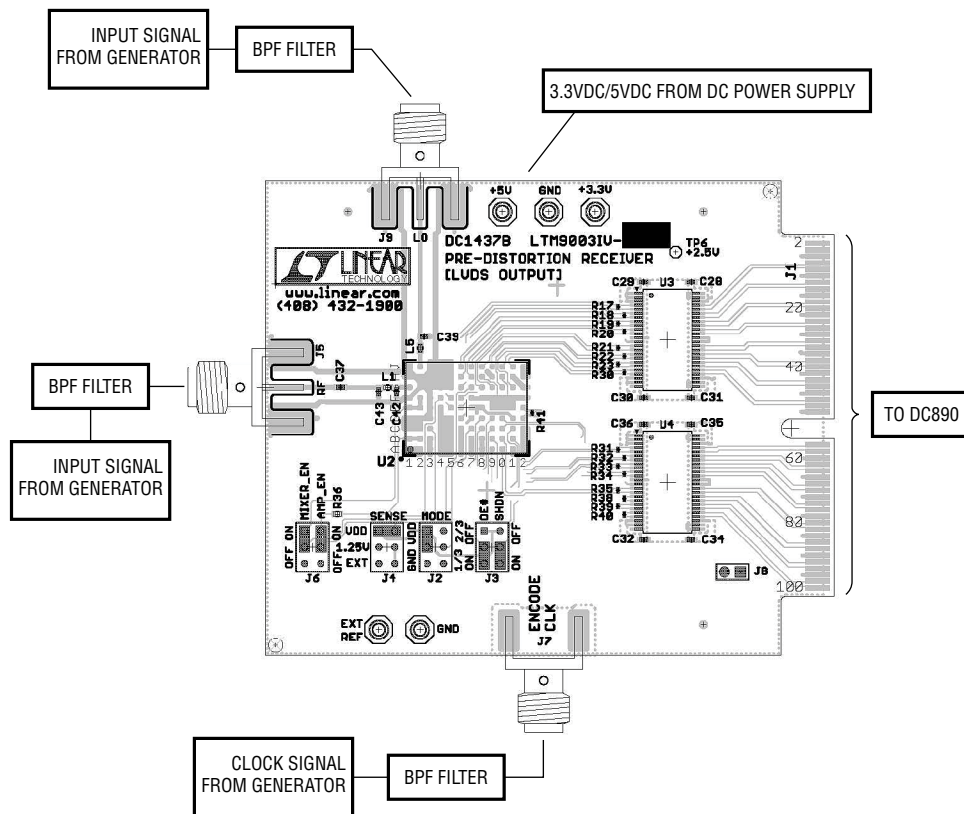
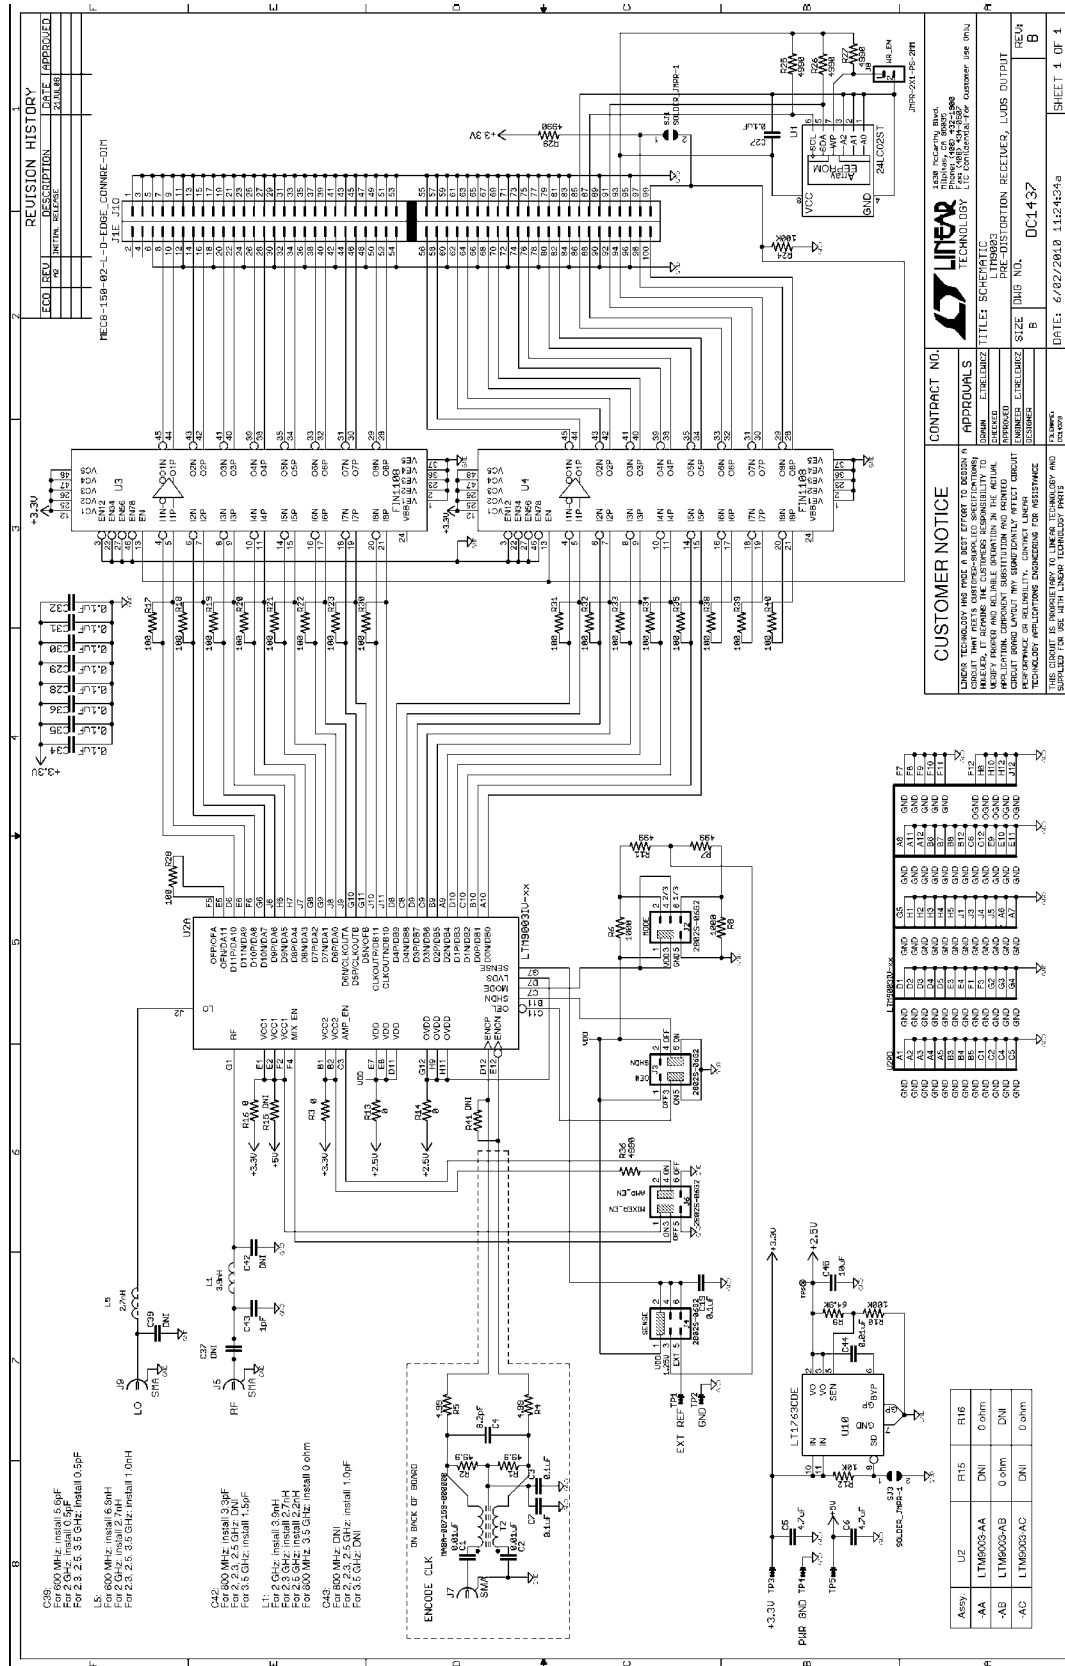

Figure 1. DC1437B Connection Diagram
Figure 4. DC1437B Schematic Diagram
Validating the performance of the LTM9003 is simple with DC1437, and requires only two input sources, a clock source, a computer, and a lab power supply. Note the RF and LO inputs are matched for 1.4GHz to 2.2GHz, and 0.9GHz to 3GHz, respectively. Refer to the schematic in Figure 4 for other matching configurations to accommodate other frequency ranges. Refer to Figure 1 for proper board evaluation equipment setup and follow the procedure below:
5. Connect the power supply as shown in Figure 1. There are onboard low noise voltage regulators that provide the supply voltage for the DC1437. Note that the LTM9003-AA requires a 3.3V supply voltage for the mixer, whereas the LTM9003-AB requires 5V. As such, only the DC1437B-AB board requires 5V as well as 3.3V input; the DC1437B-AA board can be powered from 3.3V only. The entire board and all components share a common ground. The power supply should still be a low noise lab power supply capable of supplying at least 1A.